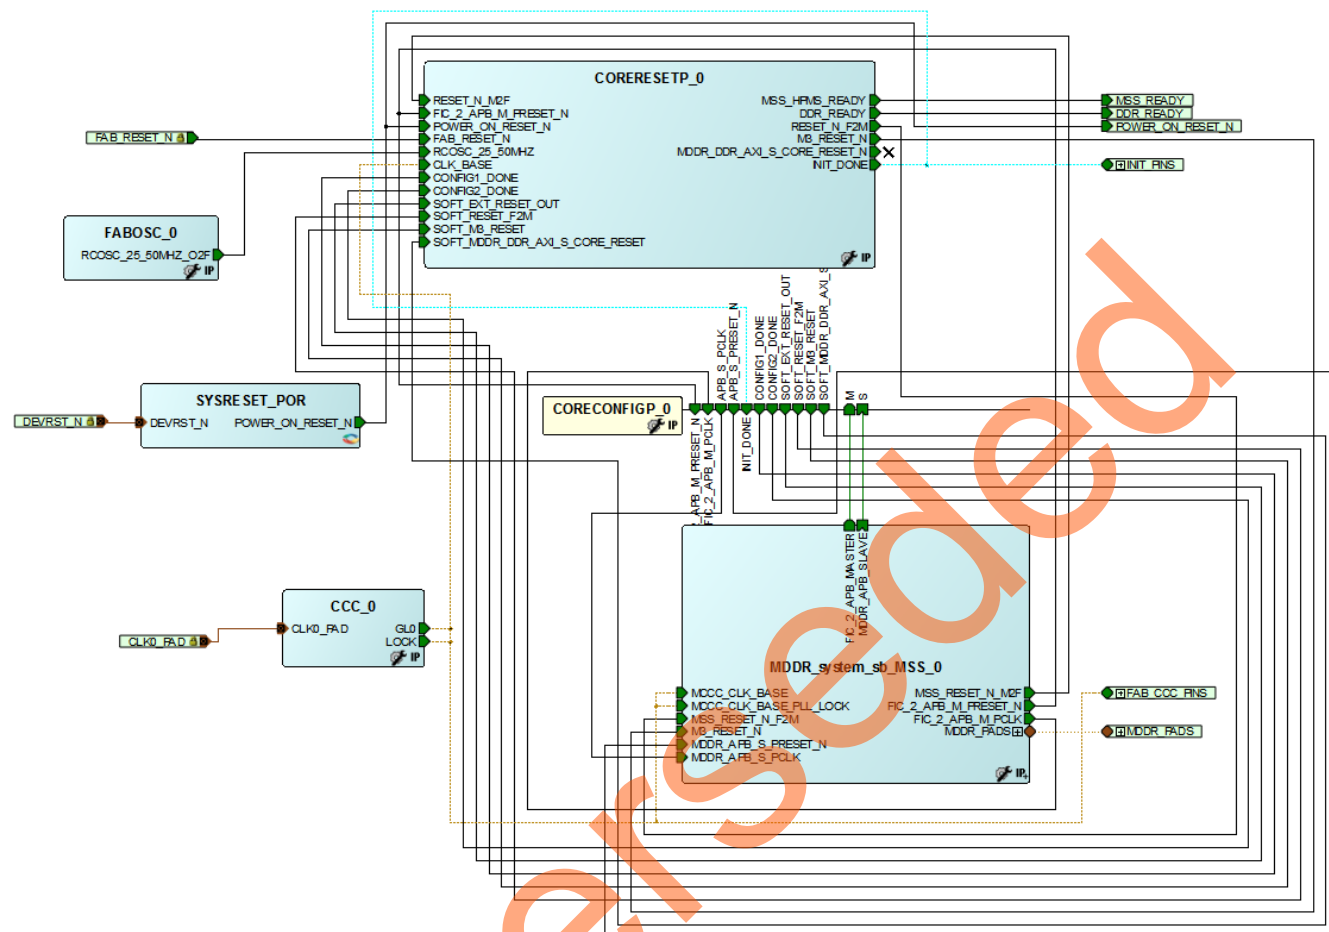

Figure 14. System Builder Generated System Opened in the SmartDesign
- Click **OK**. The system is shown in the SmartDesign canvas, as shown in Figure 14.